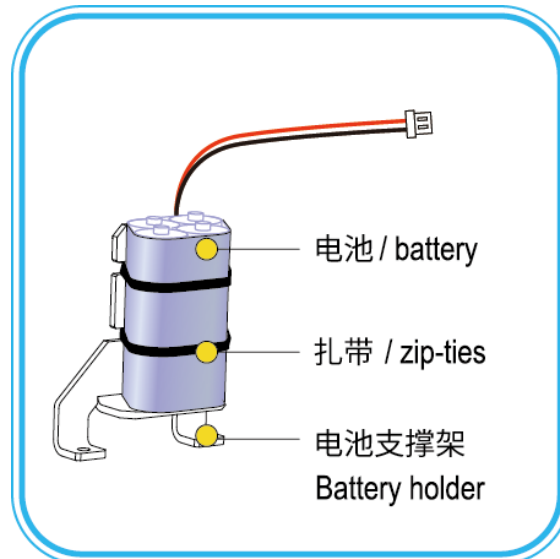

Figure 7.14 Bind the battery and battery holder
7. Bind the battery and battery holder together with two zip-ties, as shown in Figure 7.14.